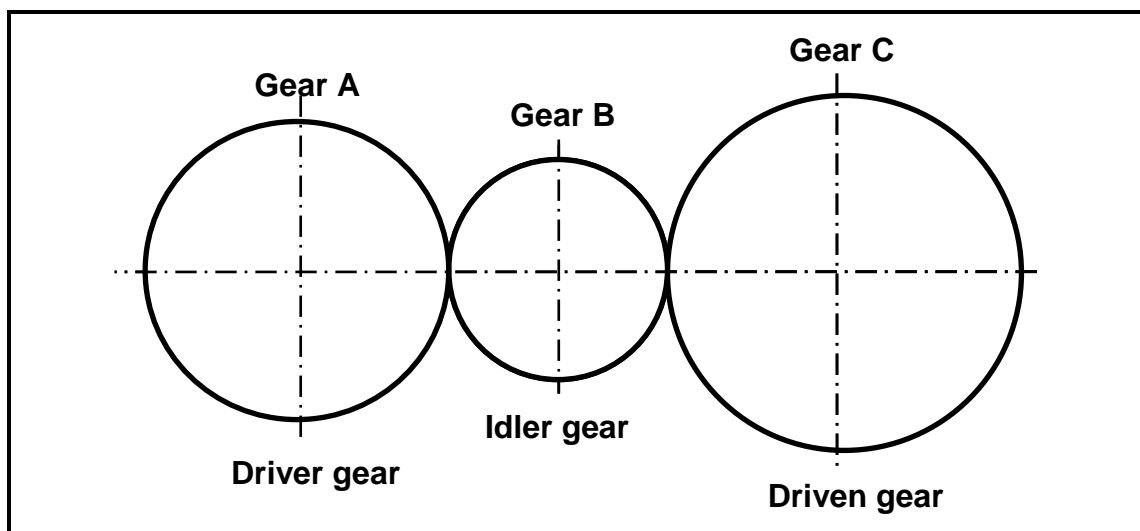

FIGURE 6.1
- 6.2 The gear system in FIGURE 6.1 below is used to control a hoisting device. The driver gear has 50 teeth and rotates at 660 r/min. The idler gear, used to change the direction, rotates at 1 000 r/min. The driven gear has 60 teeth.